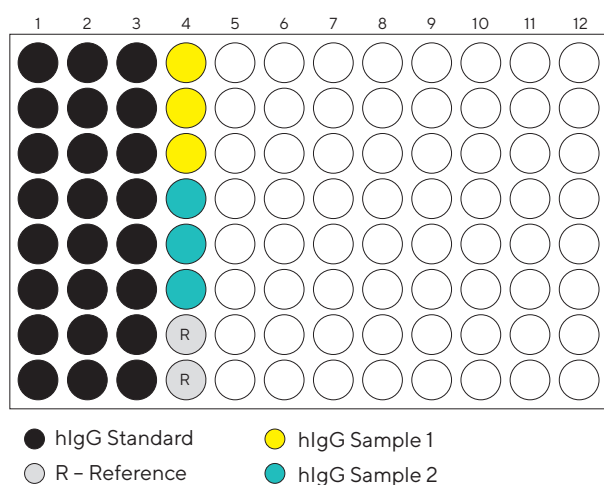

Figure 5: Example plate layout for a spike recovery assay.
3. Transfer triplicates of the prepared standards and the samples and standards to a sample plate. It is recommended to organize samples in columns, from A–H. Fill at least one well with blank diluted matrix for reference subtraction during data analysis. An example plate map is shown in Figure 5.